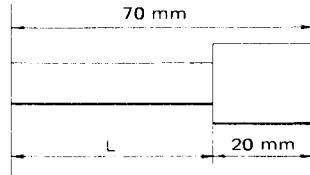

Fig. 1.25
**Example.** Find the dimension  $L$  for the spindle shown in Fig. 1.25.